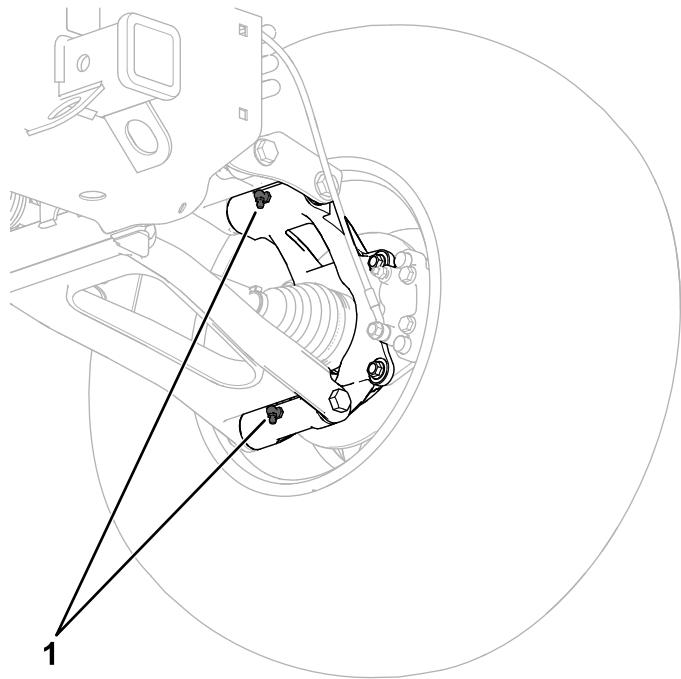

**Figure 81**
- **Ball joints (2);** refer to Figure 81